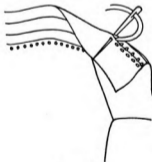

FIGURE 148
*Stand-Up Collar* (Figure 148). — The narrow stand-up collar is made straight with the fold at the top of the collar. The tiered collar is made by using